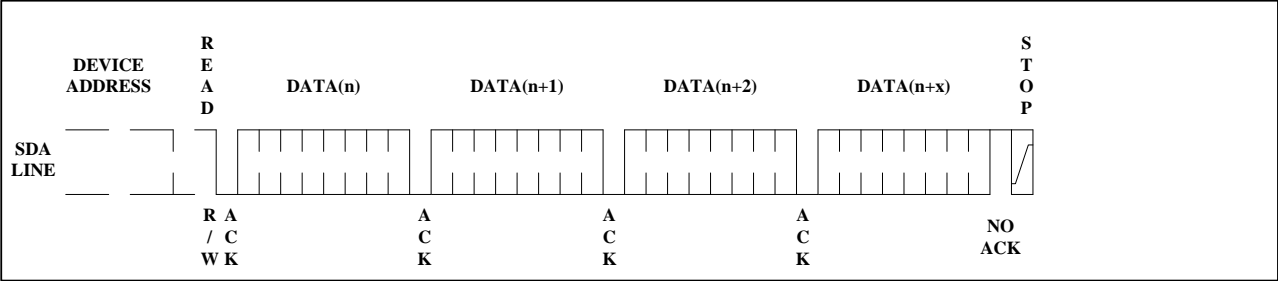

Figure 11. Sequential Read
**SEQUENTIAL READ:** Sequential reads are initiated by either a current address read or a random address read. After the microcontroller receives a data word, it responds with an acknowledge. As long as the EEPROM receives an acknowledge, it will continue to increment the data word address and serially clock out sequential data words. When the memory address limit is reached, the data word address will "roll over" and the sequential read will continue. The sequential read operation is terminated when the microcontroller does not respond with a "0" but does generate a following stop condition (see **Figure 11**).